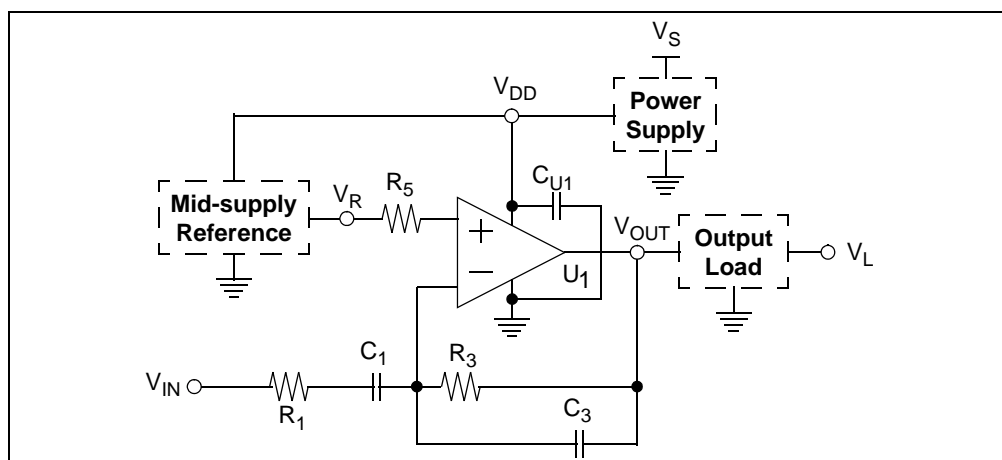

FIGURE 2-16: Inverting Differentiator Circuit Diagram.
- The Mindi™ Amplifier Designer gives design recommendations for the inverting differentiator circuit; see the circuit diagram shown in Figure 2-16